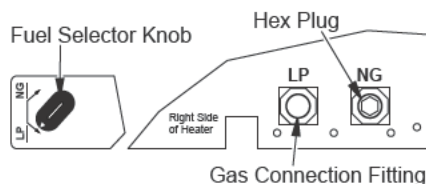

Figure 12 - Settings for Propane/LP Gas Selection
2. For propane gas, press in knob using a flat screwdriver with a blade the thickness of a quarter and turn knob counterclockwise until the knob locks into the LP position (see Figure 12). Fuel selection device must be locked in the LP position. Do not operate heater between locked positions.
3. Remove hex plug (with wrench provided) from propane/LP gas inlet of regulator (see Figure 12). Install hex plug into NG inlet of regulator. Install gas line into LP inlet of regulator. Use thread sealant to assure there are no leaks.